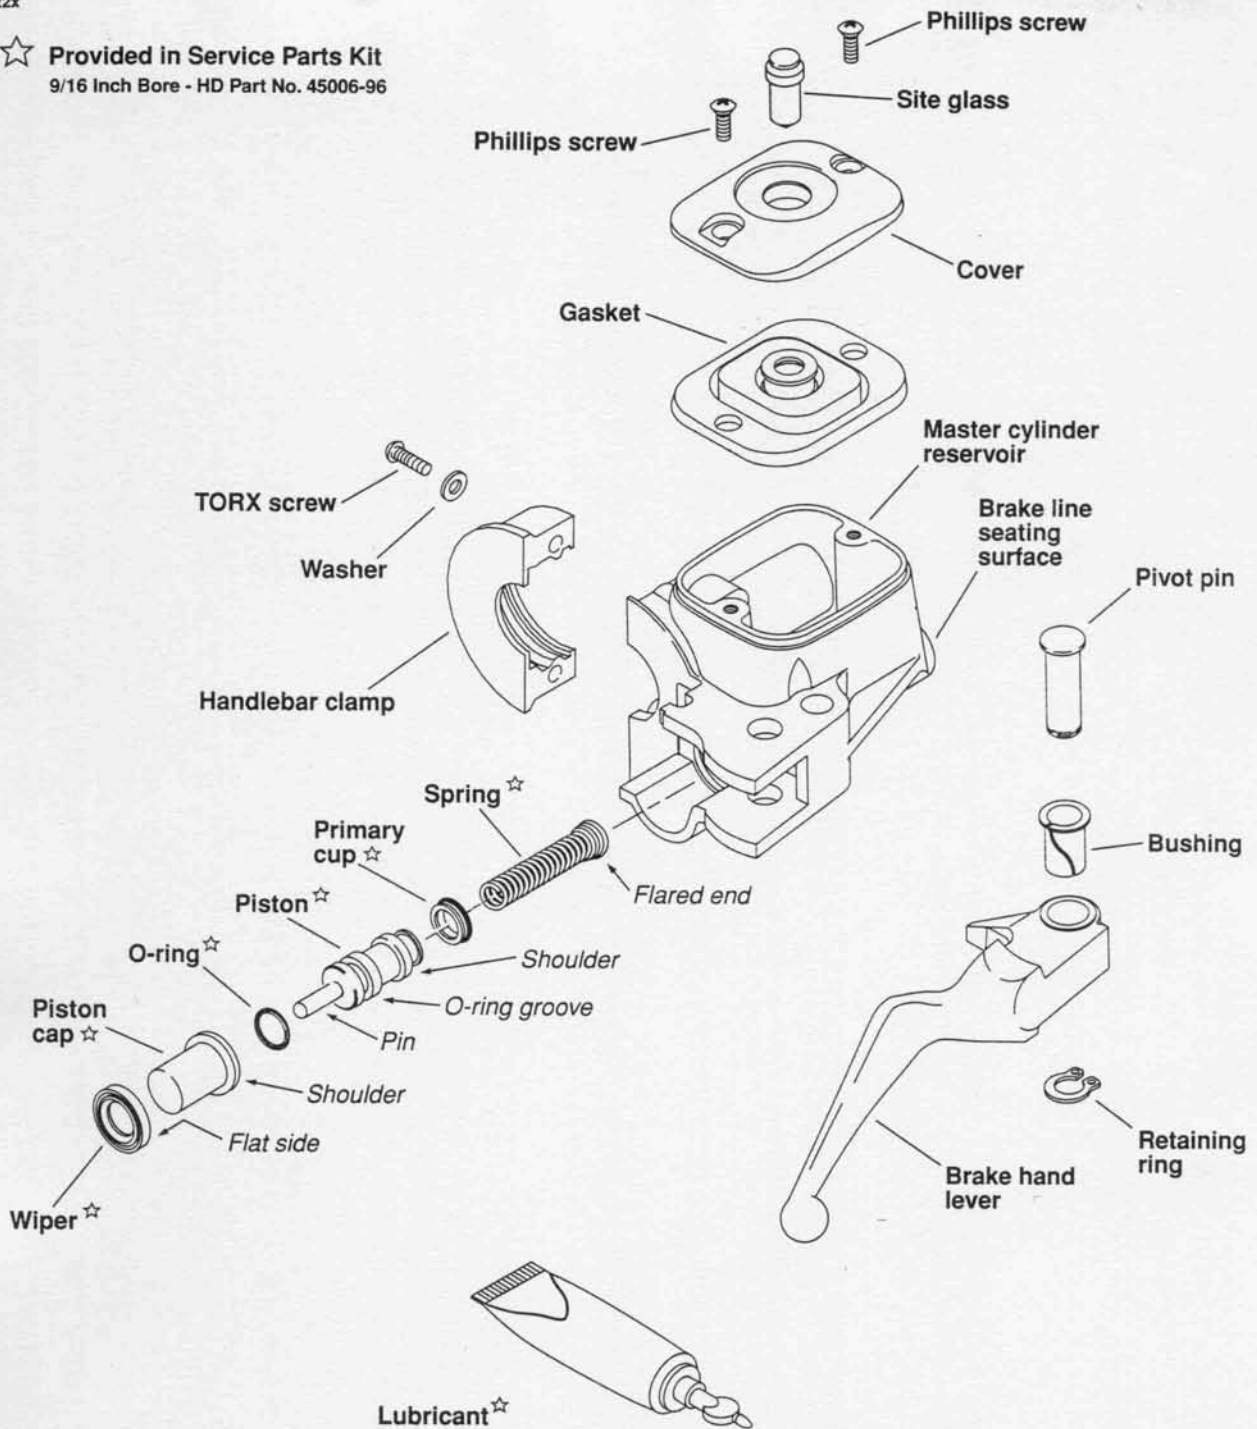

Figure 2-45. Front Brake Master Cylinder Assembly
4. See Figure 2-45. Using a T27 TORX drive head, remove the two screws with flat washers securing the handlebar clamp to the master cylinder housing. Remove the brake lever/master cylinder assembly and clamp from the handlebar.
1. See Figure 2-45. Fit O-ring into groove at front of piston (pin side).